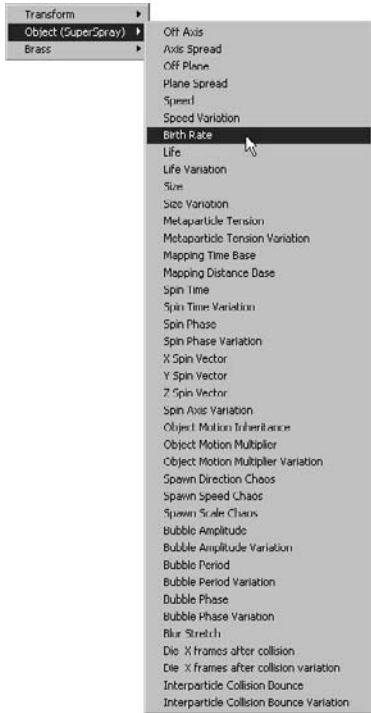

Figure 12.28
- From the small pop-up menu that appears, choose Object (SuperSpray) and then Birth Rate from the cascading menu (Figure 12.28).